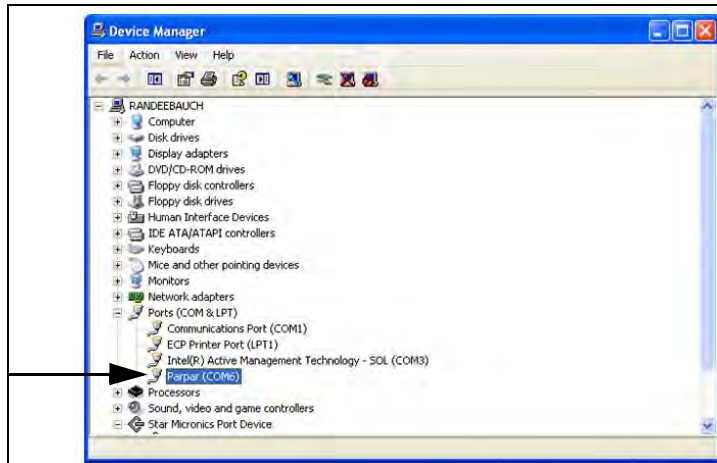

Figure 4-6. Device Manager
9. To configure a printer using the USB driver, open the software driver *Parpar* in the device manager (Figure 4-6). The port assigned to that driver is displayed.